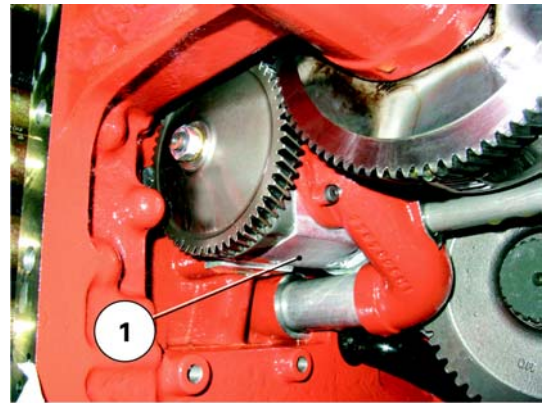
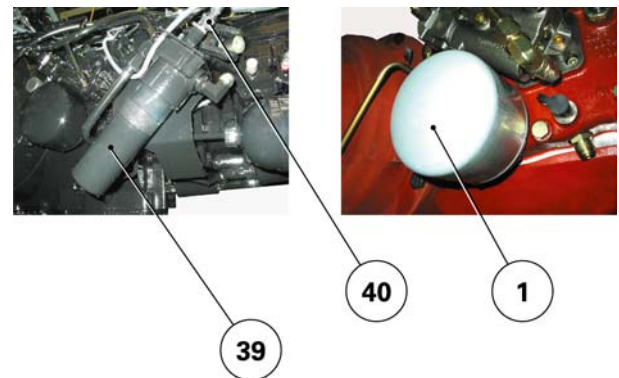

Fig. 1
Fig. 2
These two circuits are supplied by a two-stage gear pump (1) (Fig. 1) fitted on the internal face of the right-hand hydraulic cover. The pump sucks transmission oil from the common tank formed by the centre housing and the gearbox through a 150 micron filter (1) (Fig. 2), also fitted on the right-hand cover.
One or two 15 micron main filter(s) (39) (depending on option) and a clogging indicator (40) are fitted on the low flow rate circuit upstream from the Orbitrol steering spool valve (Fig. 2).
The hydraulic pump is driven by the ring gear of the PTO clutch unit (Fig. 1).